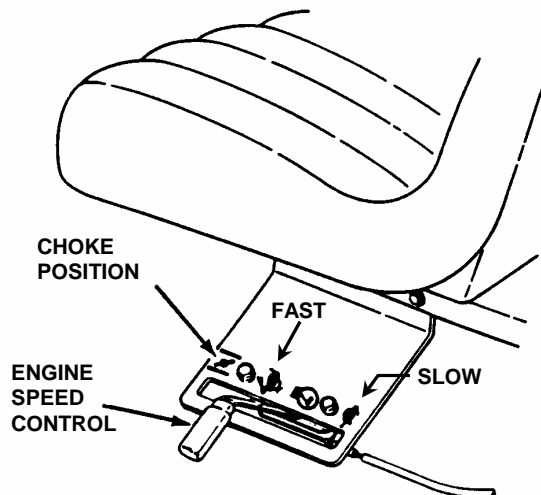

FIGURE 2.6
5. Move engine speed control to the choke position to start a cold engine. See Figure 2.6.
1. Move transmission shift lever to (N) Neutral position. DO NOT start engine with transmission shift lever in a drive position.
5. Move engine speed control to the choke position to start a cold engine. See Figure 2.6